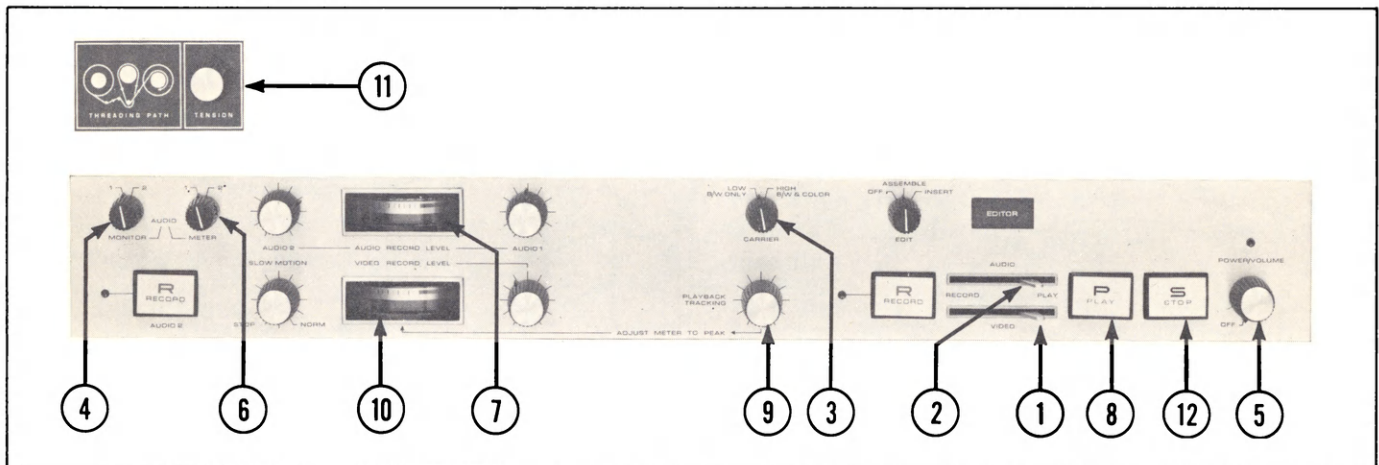

Figure 8 Playback Operation
3. Be sure the Video and Audio Record/Play Levers (items 1 and 2, figure 8) are in the right-hand (PLAY) position.
4. Set the Carrier selector (item 3, figure 8) to the High or Low position in accordance with item 11, page 6, "CARRIER SELECTOR".
5. Set the Audio Monitor selector (item 4, figure 8) to the position (1 or 2) that will correspond to the audio channel to be monitored during playback. Adjust the volume of the playback with the Power/Volume control (item 5, figure 8) once playback has started.
6. Set the Audio Meter selector (item 6, figure 8) to the position (1 or 2) of the audio channel playing to monitor the audio level on the Audio Record Level meter (item 7, figure 8), if desired.
7. Depress the Play button (item 8, figure 8) to begin tape movement and the PLAY mode.
For tapes that were recorded on the VPR5800, rotate the Playback Tracking control (item 9, figure 8) clockwise to the "SET" position.
8. Adjust the Playback Tracking control (item 9, figure 8) for a maximum indication on the Video Record Level meter (item 10, figure 8).
9. Adjust the Tension control (item 11, figure 8) for minimum bending or hooking at the top of the picture on the monitor.
10. To terminate the PLAY mode, depress the Stop button (item 12, figure 8). To begin the PLAY mode again, simply depress the Play button (item 8, figure 8). However, it may be necessary to readjust the Tension control as described in step 9. This is due to the Tape Tension Arm assembly having been disengaged when the Stop button was depressed.